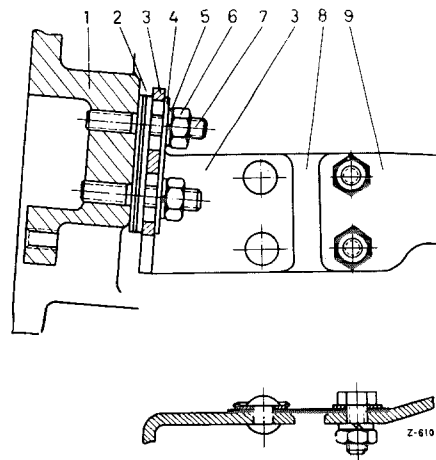

Fig. 26-1/7
The shaft is centered vertically by shifting the bracket (3) (Fig. 26-1/6).
Note: On recent models the brackets (3) have two standard bores instead of the two slots. The spacer (4) is no longer required (Fig. 26-1/6).
In order to facilitate vertical centering of the clutch pedal shaft, the two bores in the swivel support (9) have been enlarged in diameter from 6.4 to 7.0 mm. If a new bracket (3) is installed subsequently, the two bores in the swivel support must be bored to a diameter of 7 mm (Fig. 26-1/7).
- In the case of Models 180 a, 180 b, 190 D, and 190 Db adjust the length of the damping spring (8) to 15.5 mm by screwing in